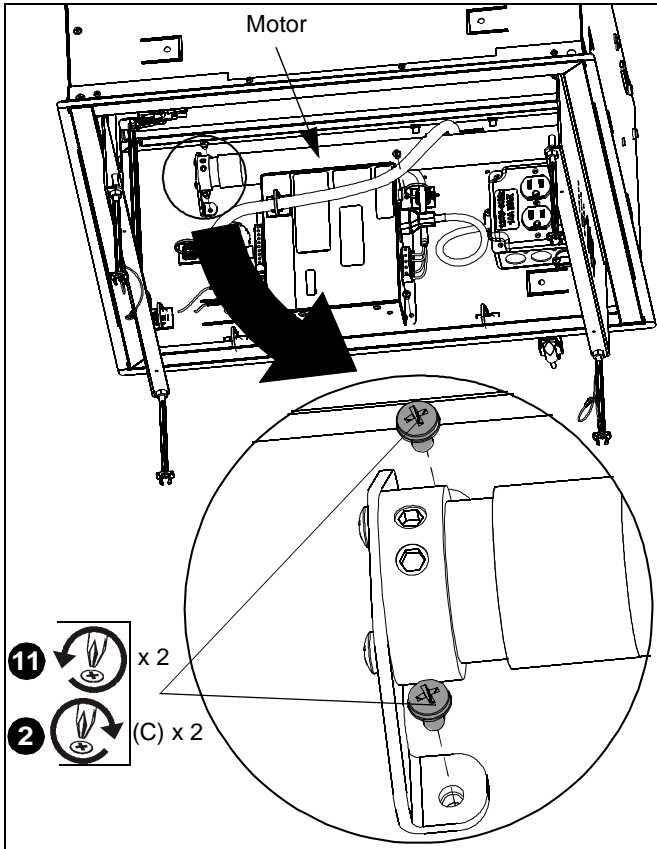

Figure 3
2. Slide motor into bushings and reinstall two rear motor mounting Phillips screws (removed in Step 11), or two Phillips 8-32 x 5/16" screws (C). (See Figure 3)